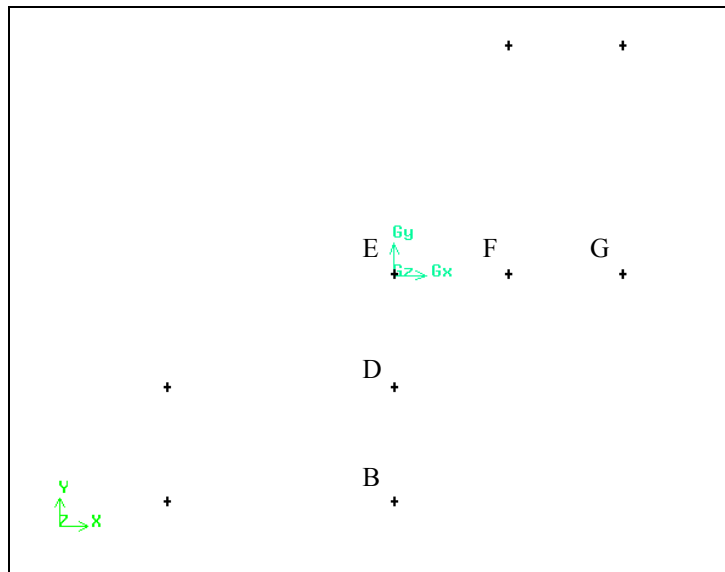

Figure 2-5: Vertices used to create arcs
- b) *Shift*-left-click the vertex in the center of the graphics window (vertex E in Figure 2-5).
- d) *Shift*-left-click the vertex to the right of the center vertex in the graphics window (vertex F in Figure 2-5).
- e) Select the vertex directly below the one in the center of the graphics window (vertex D in Figure 2-5).
2. Repeat the above steps to create a second arc. The center of the arc is the vertex in the center of the graphics window (vertex E in Figure 2-5). The endpoints of the arc are the vertices to the right and below the center vertex that have not yet been selected (vertices G and B, respectively, in Figure 2-5). The arcs are shown in Figure 2-6.